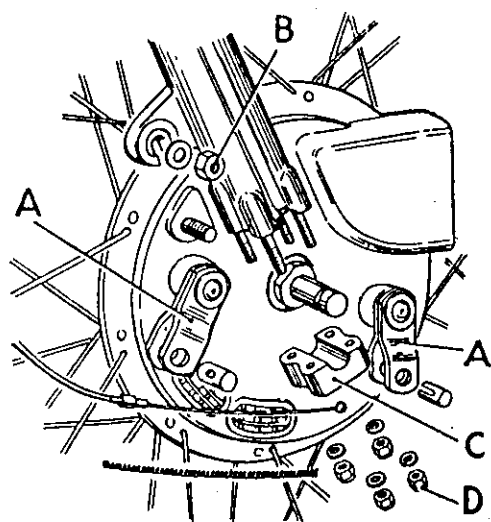

Fig. F1a. Removing the front wheel.
Completely slacken the brake cable at the handlebar adjuster and uncouple the cable from the lever. Extract the inner and outer cables from the levers (A) Fig. F1a, on the brake cover plate and slacken its retaining nut (B). Remove the end caps (C) from the fork outer members, at the same time supporting the wheel until all eight nuts (D) are released. As soon as the brake anchor plate is clear of the slotted ear on the outer member, the wheel assembly can be taken out.
The brake is of the two leading-shoe type, the expansion of the shoes being automatically equalised by the caliper action of the levers (A) Fig. F1a.